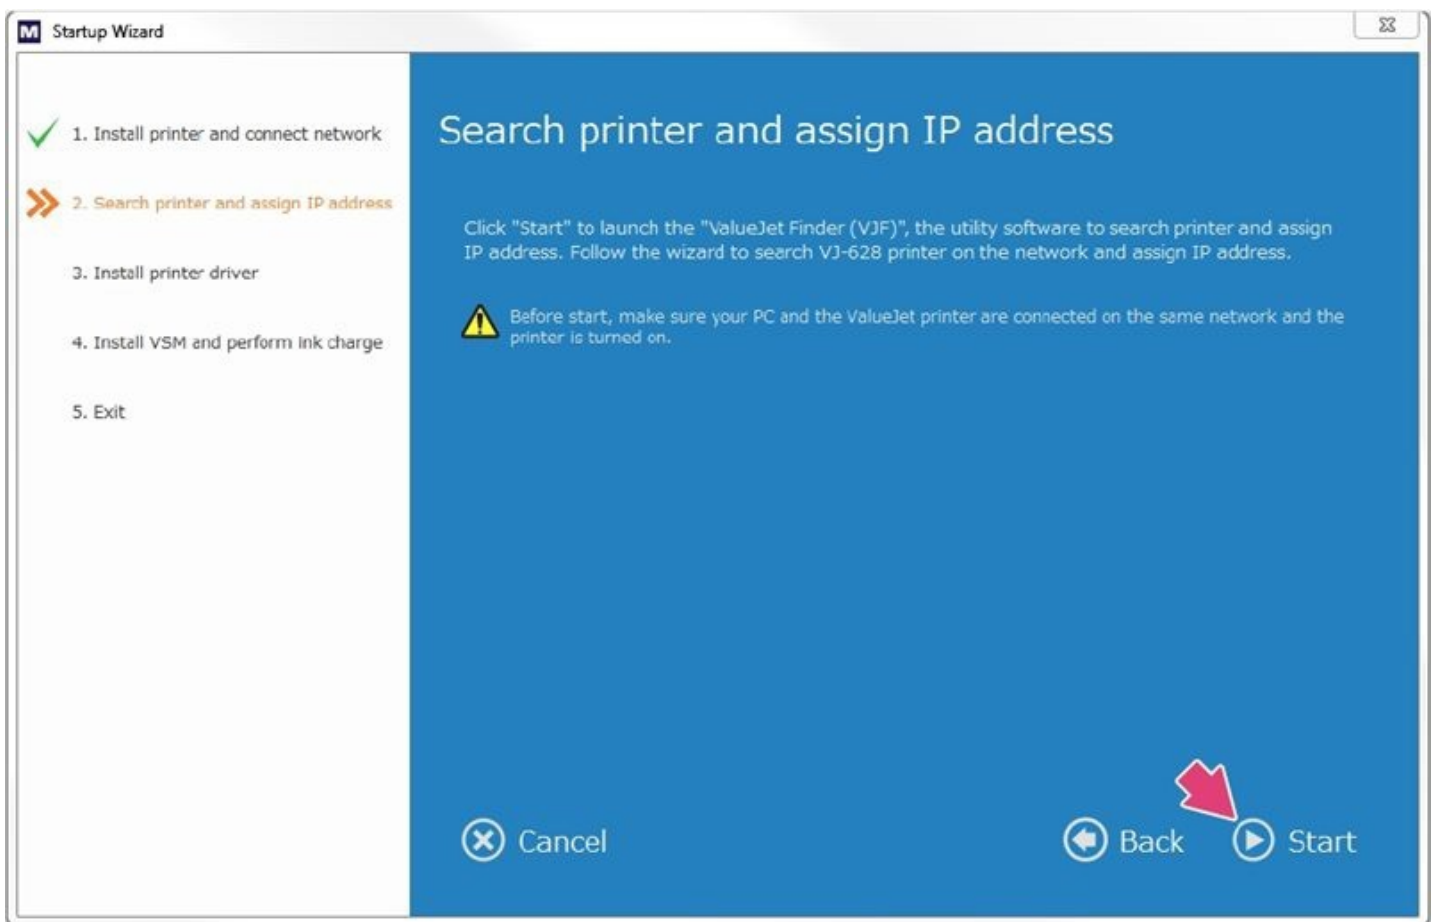

Figure 18
5. Startup Wizard will now assist you in assigning an IP address. Select **Start** to begin. See Figure 18.